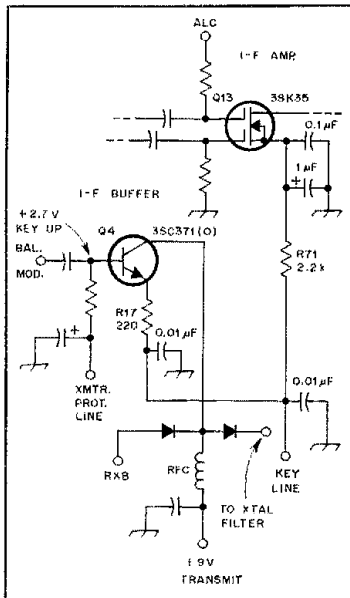

Fig. 2 — Original keying circuit of the Kenwood TR-7010.
□ I received local reports of severe key clicks while using my Trio/Kenwood 2-meter ssb/cw transceiver (TR-7010), even though the final amplifier was checked and found to be operating linearly. The original keying circuit is shown in Fig. 2. Although the TR-7010 may not be a widely recognized piece of equipment, this information on active click filtering may be helpful in treating other brands of gear.
Dave Geiser, author of the Technical Correspondence item, "Wave Traps with Three Components" (November 1981 *QST*, p. 47), advises that he erred in the captions for the drawings at A and B of Fig. 2. Fig. 2A is actually a circuit with anti-resonance above the resonant frequency, while that in Fig. 2B is a circuit with anti-resonance below the resonant frequency. The text is correct.
I made a simple device to remove the outer insulation. Use a scrap piece of pine "two by four," about 6 inches long (mm = in. \times 25.4). Drill a $1/4$ -in. hole about $3/4$ in. from one end. With the block fastened in a vise, drive a disposable steel blade used in a "sheet rock" (or "utility") knife into the wood, with the grain. Drive the blade nearly into the hole, being careful to keep the blade parallel to the hole. Now carefully tap one end of the blade into the hole as shown in Fig. 2.
Fig. 2 — Construction details of a jig for stripping the outer insulation from large amounts of coaxial cable. [Exposed edges of the blade could be cut or ground off as a safety measure — Ed.]